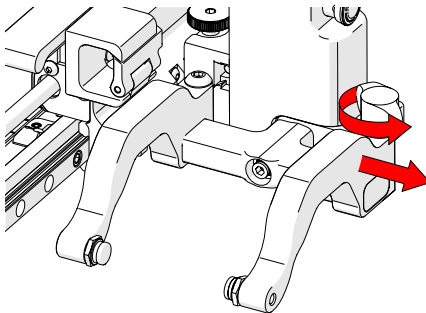

Fig. 37 - Remove outer arm
3. Loosen the probe holder adjustment knob and remove the outer probe holder arm (Fig. 37).